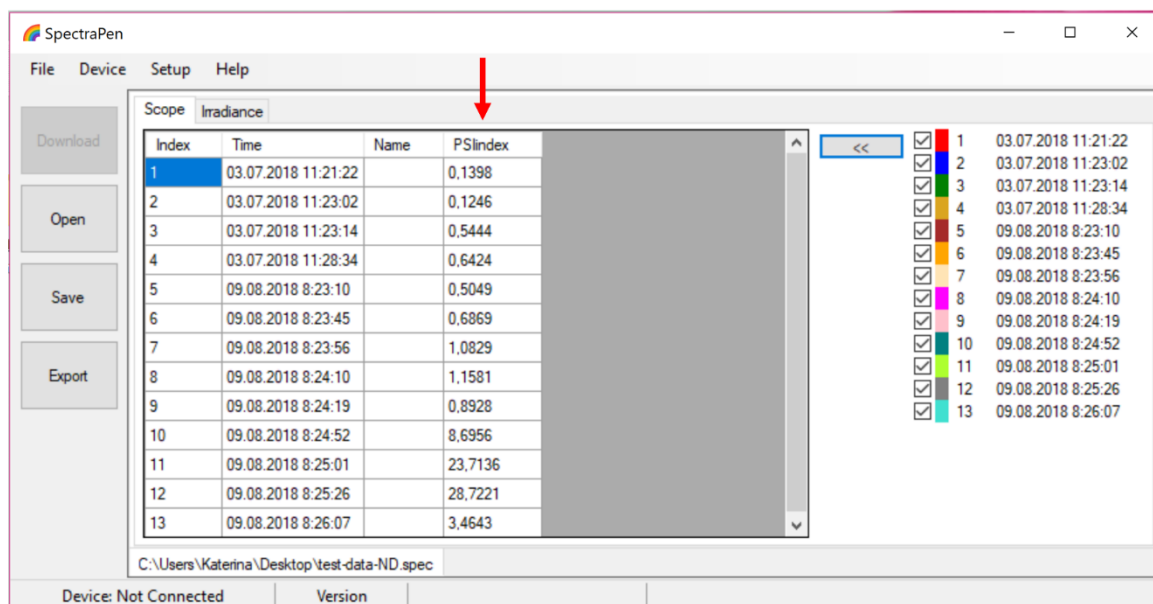

Fig. 45 New index.
5. The new index appears in the selected bookmark in the data (Fig. 45).